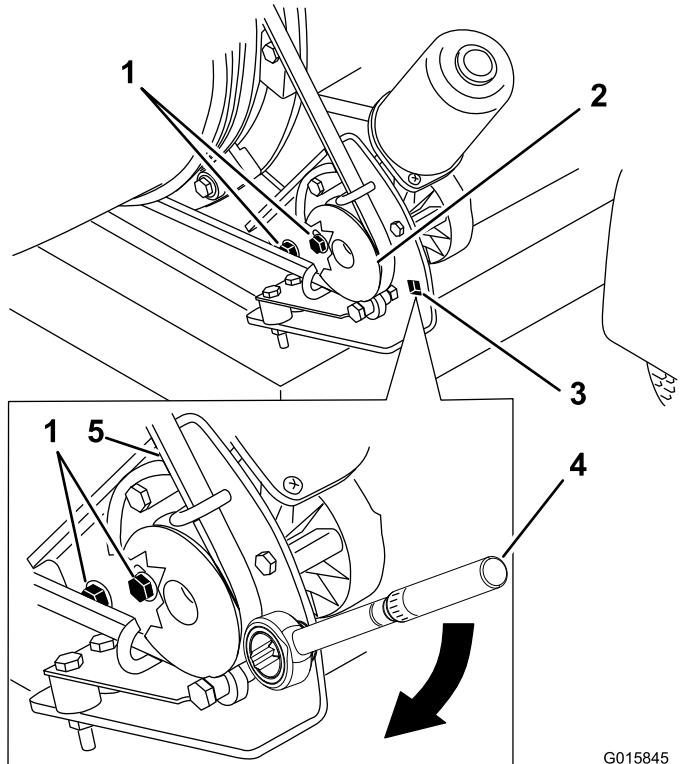

Figure 33
1. Loosen the bolts securing the pulley mounting bracket to the blower frame (Figure 33).
2. Position a torque wrench into the pulley mounting bracket (Figure 33).
3. Pivot the pulley mounting bracket away from the blower nozzle until the torque wrench reads 22.6 to 26.0 N·m (200 to 230 in-lb) (Figure 33).